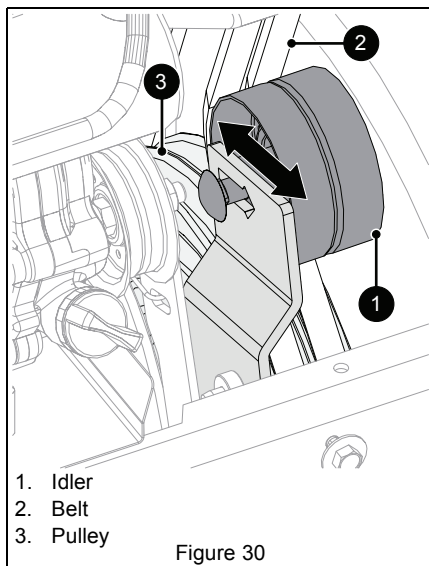

Figure 30
See Figure 30.
- If there is less than 1.6 mm (1/16") gap, loosen idler adjustment nut and move idler away from belt or pulley. Position idler to achieve a 1.6 mm (1/16") minimum brake pad gap and a 12.7 mm – 22.2 mm (1/2" – 7/8") gap between the plastic roller and the frame. See Figure 30.